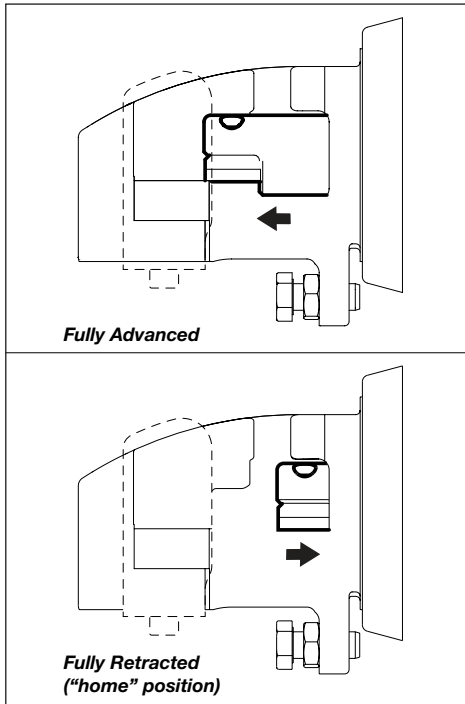

Figure 3, Piston Positions (viewed from top)
2. Be sure that the piston is in the “home” (fully retracted) position. See Figure 3.